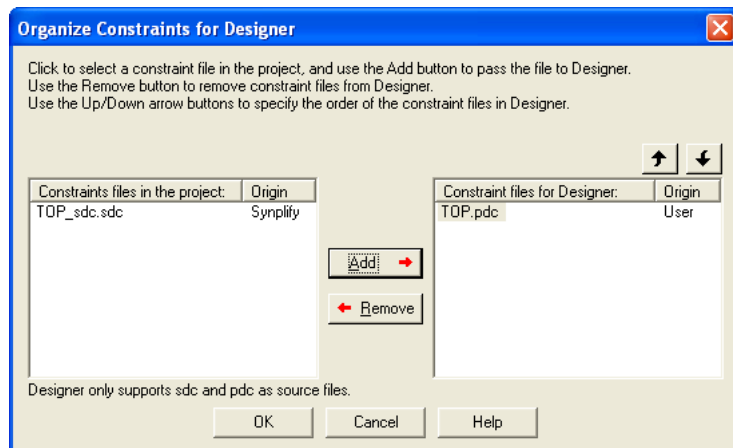

Figure 3-8. Selecting the Constraint File for Place-and-Route
2. In the Organize Constraints for Designer dialog box, select `Top.pdc` and click **Add** (Figure 3-8).